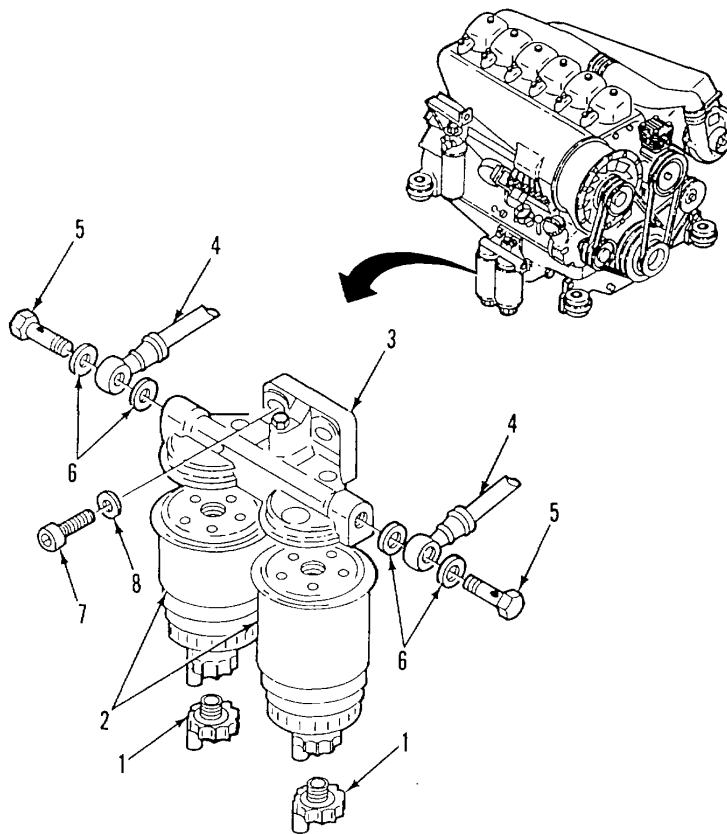

Figure 2-30. Fuel Filter Assembly
a. REMOVE, (Figure 2-30)
(1) Remove fuel filters (2) as follows: